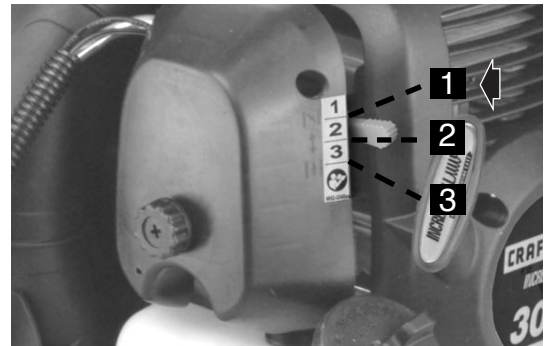

Fig. 10
3. Your unit is designed with a 3 position choke: FULL CHOKE "1", PARTIAL CHOKE "2", and RUN "3". Move choke lever to FULL CHOKE "1" position. (Figure 10) **(DO NOT PRESS THROTTLE LOCK OR TRIGGER.)**